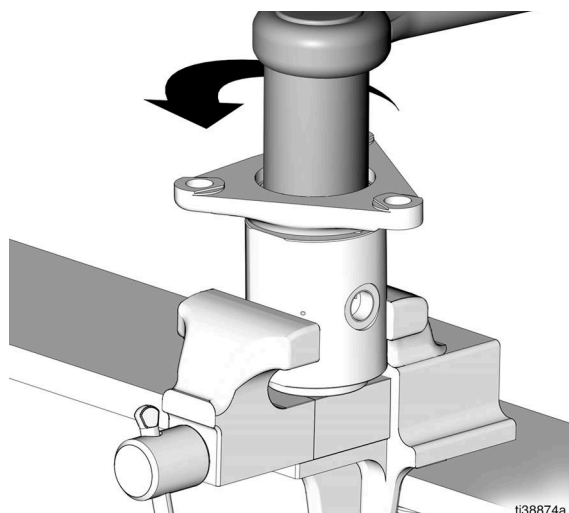

FIG. 16
18. Using a 2 in. socket, loosen and remove the throat seal retainer nut (19) (FIG. 16).